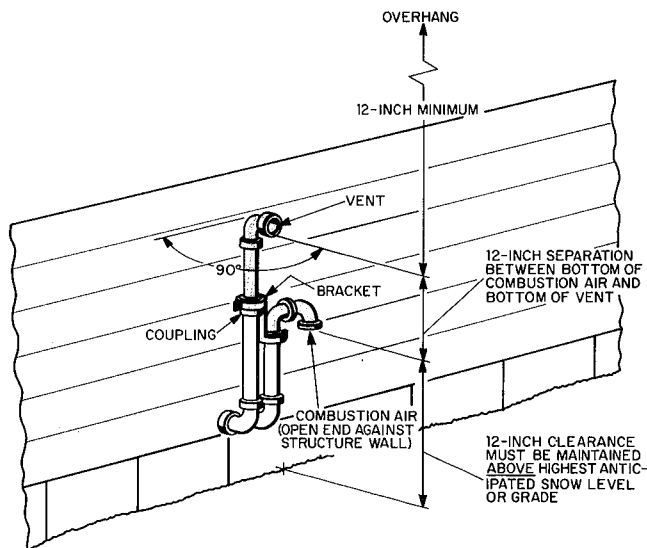

Fig. 6 — Sidewall Termination Below Snow Level or Too Close to Grade (Preferred)
- Install kit as follows when combustion-air and vent pipes exit through sidewall less than 12 in. above highest anticipated snow level or grade. See Fig. 6 and 7.
4. Loosely install U-fitting and bracket as shown in Fig. 6. Position U-fitting so that open end is against building wall.
- 5 Loosely install vent-pipe assembly in coupling as shown in Fig. 6 or 7.
6. Check required dimensions as shown in Fig. 6 or 7.
8. Install bracket as shown in Fig. 6 or 7.